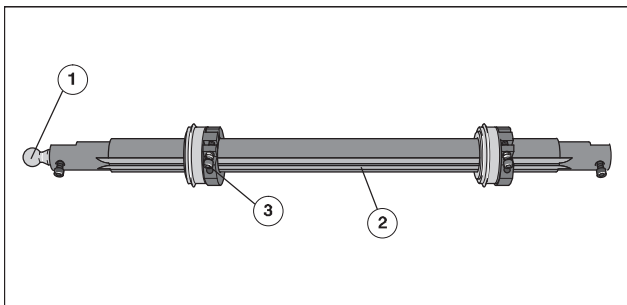

Fig. 4 Mounting the perforating disc
The perforating disc is mounted onto the perforating shaft outside the press. The spherical end of the perforating shaft (Fig. 4/1) is on D.S.
2. Fix perforating disc with the stop screw (Fig.4/3) in the lower groove (= disengaging position, Fig. 4/2). Tighten the stop screw using the Allan key supplied with the perforating device.